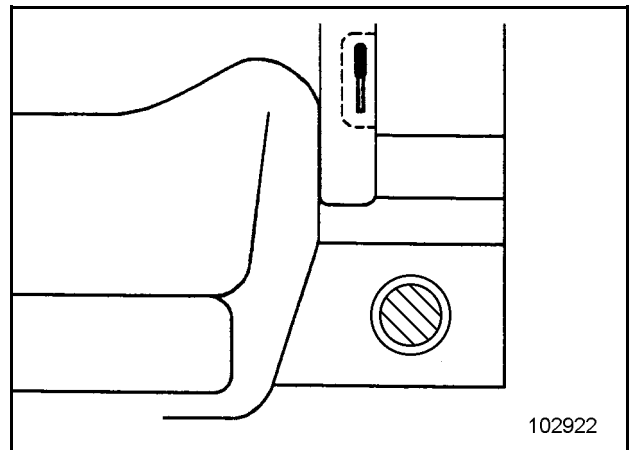

Fig. 5
- Open the outlets (Fig. 5) completely and turn them in the direction of the rear window.